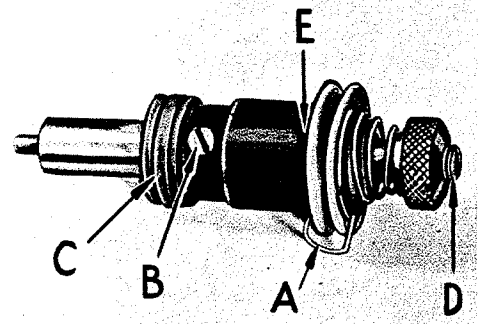
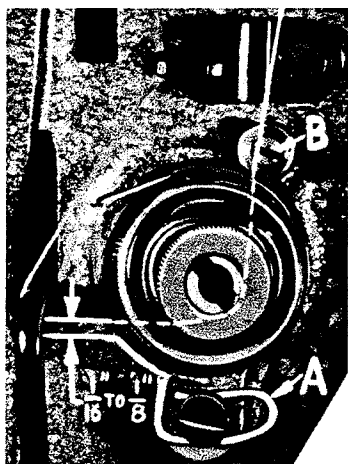
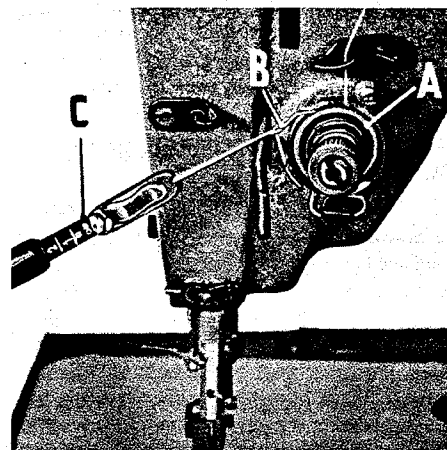

Fig. 17
Fig. 18
Fig. 18A
Test check spring tension (A, Fig. 17). There should be enough tension to assure a good returning snap when spring is depressed and released. Should it require adjusting, loosen set screw in the head located under arm and to the right of tension assembly, and remove tension assembly. Partially loosen tension post set screw (B) in tension post socket (C). Turn the tension post (D) counterclockwise until the check spring moves away from the upper stop (E) and has no tension on it. Turn the tension post (D) in a clockwise direction until the spring again touches the upper stop (E). Then, proceed further in the same direction until the desired tension is obtained. When correctly set, the tension post set screw (B) should be drawn up snugly, yet not forcefully. Further adjustment of the check spring tension can be made by inserting a screwdriver into the slotted end of the tension post (D) and turning in the required direction.
insure a good returning snap when spring (B, Fig. 18A) is depressed and released. The check spring tension is adjusted from about 1 to 1 1/4 ounces when measured with a postal scale (C, Fig. 18A). This is measured when the check spring is 1/32 to 1/16 inch from its stop. The tension post set screw should be drawn up snugly but not forcefully tightened (B, Fig. 17). The tension release pin should move freely in the tension post (D, Fig. 17). The check spring eyelet (A, Fig. 18), located just below the tension discs, should be set for correct height as follows:
With a thread running from the tension post to the thread wire in a straight line, the check spring eyelet should be set 1/16 to 1/8 inch below the thread line (Fig. 18). Be sure the eyelet is set close to the tension discs so that the check spring will pass freely over it without obstruction. After making this setting, proceed to thread machine as per threading diagram (Fig. 2).
The in and out position of the tension assembly is correct when the tension discs are in line with the check spring eyelet (A, Fig. 18). Set the stop screw (B, Fig. 18) so that when the flange of the tension assembly rests against it, this position is maintained. Tighten the tension assembly set screw.
Check the adjustment of tension assembly (A, Fig. 18A). Check spring tension. There should be enough tension to